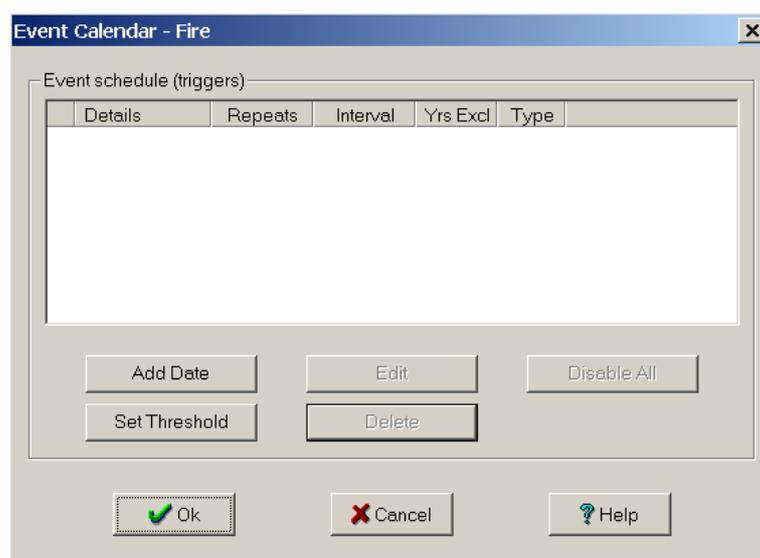

Figure 13.5 Event Calendar window
16. Select the **'Settings'** button to obtain the Event Settings dialogue, shown in Figure 13.5
3. Select **'Initialise Module'** from the drop-down menu and obtain the **'Event Calendar'** panel (figure 13.5)